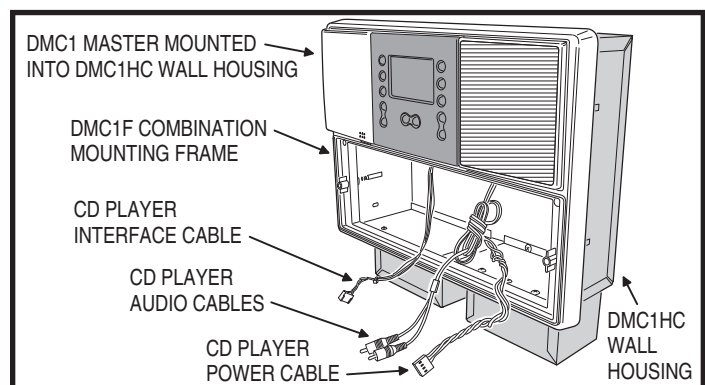

Figure 24. dmc1F Frame with Master Station, Ready for CD Player
7. Secure the dmc1 Master Station to the wall housing using the two long screws provided (see Figure 24). **DO NOT OVERTIGHTEN THE SCREWS THE FRAME MIGHT DISTORT OR CRACK!**